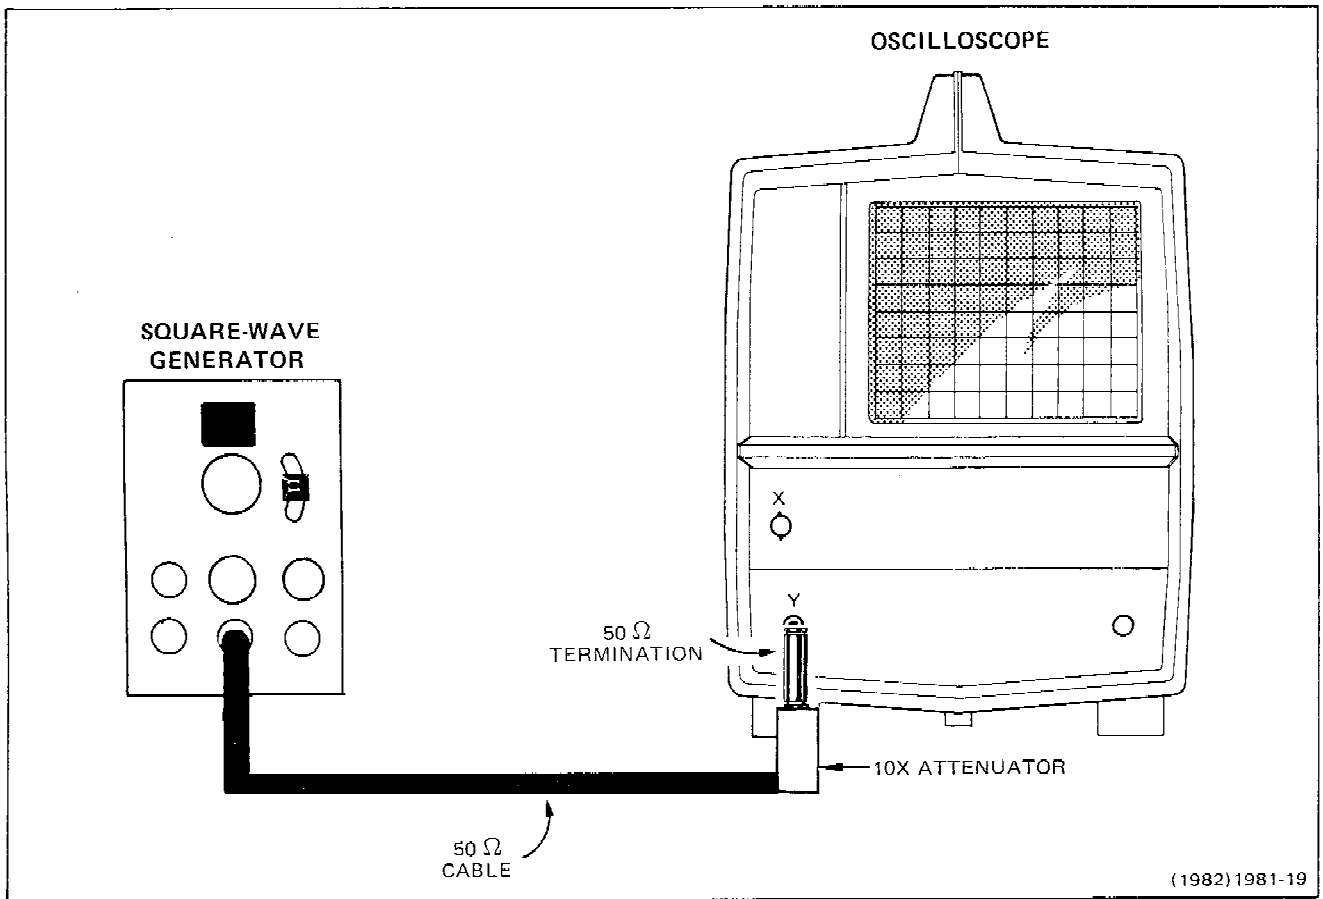

Fig. 4-5. High frequency compensation adjustment setup.
b. Connect square-wave generator (fast-rise, + transition) to CH 1 input connector via 50  $\Omega$  cable, 10X attenuator, and 50  $\Omega$  termination (see Fig. 4-5).